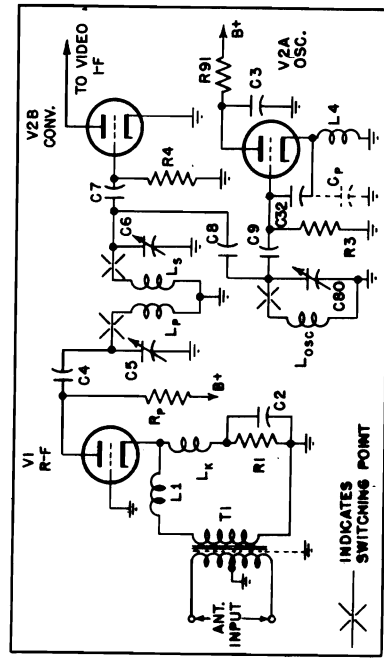

Fig. 2. R-F Amplifier, Converter and Oscillator
1. R-F AMPLIFIER, CONVERTER AND OSCILLATOR (SEE FIGURE 2)
—The r-f amplifier makes use of a Type 6AU6 pentode tube connected as a triode grounded grid amplifier. The antenna is connected into the cathode circuit of the tube through a transformer, T1, so as to provide a substantially constant input impedance of 300 ohms to the antenna and lead-in at all frequencies. The transformer, T1, is balanced to ground in the primary winding providing cancellation of noise pick-up on the antenna lead-in. An electrostatic shield is incorporated between the primary and secondary windings to prevent noise being transferred from primary to secondary by capacity effect. R1 is the normal bias resistor for V1. A choke (L_k in Figure 2) is placed in series with this cathode resistor to prevent the input impedance from being lowered by the shunting effect of the cathode bias resistor and by-pass capacitor, R1 and C2. It also neutralizes the total cathode capacity, thus preventing it from affecting the input impedance. The choke value is changed when switching from the lower five to the upper seven channels. L1 is a series compensating choke which prevents a loss in gain on the high frequency channels.